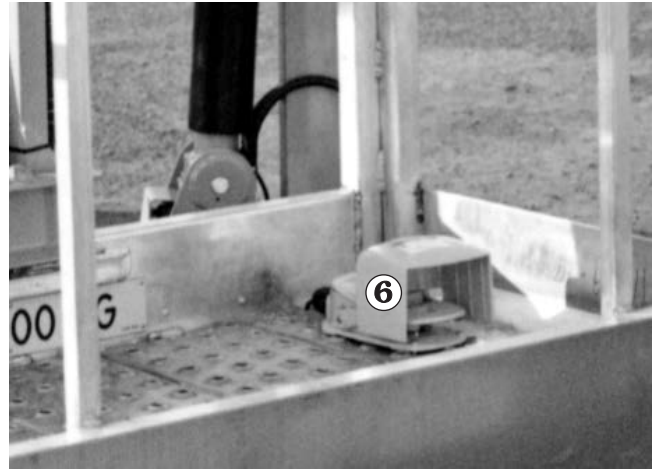

Figure 9.3
6. Step on the platform foot switch ⑥ (see Figure 9.3).